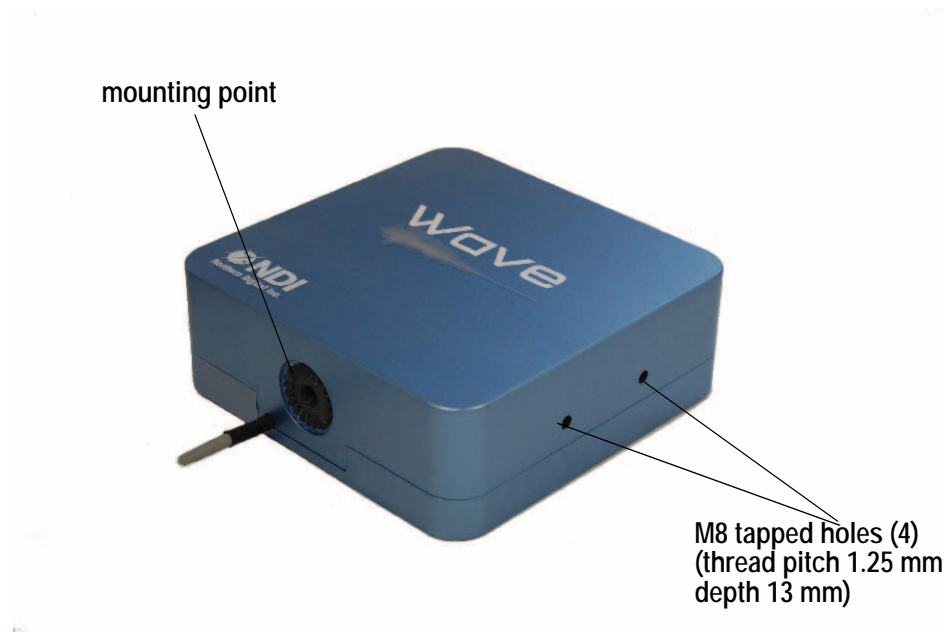

Figure 2-1 Field Generator - Mounting Options
2. Place or mount the Field Generator on a rigid support system that can carry the full weight of the Field Generator and the Field Generator cable (2.8 kg). The support system must also be designed to minimize vibrations, as vibrations may introduce measurement errors. The Field Generator may be mounted in two ways (refer to Figure 2-1):